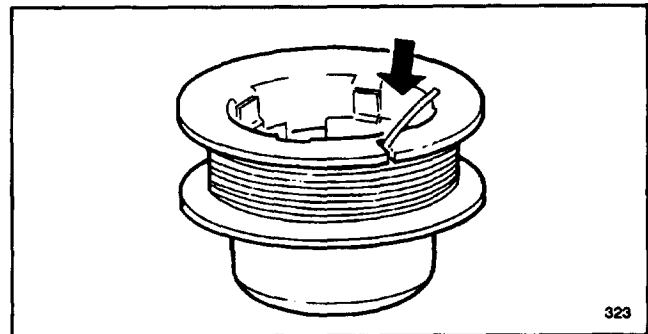

Figure 12
- C. Keep line tight on spool by making a hook in the line and secure in groove (Fig. 12).